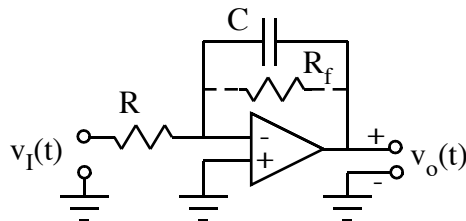

Figure 9.5 Negative Integrating circuit
Figure 9.5 shows an integrating circuit. It is called a “negative” integrator since the signal goes to the negative terminal of the op-amp.
1. Connect the circuit shown in Figure 9.5. Choose the values of R and C as 1000Ω and $0.05 \mu\text{F}$ respectively (or as directed). To get a better stable pattern, you can connect a resistor R_f of value between $100 \text{ k}\Omega$ and $1 \text{ M}\Omega$ across the capacitor. Connect the input to channel 1 and the output to channel 2 of the oscilloscope.